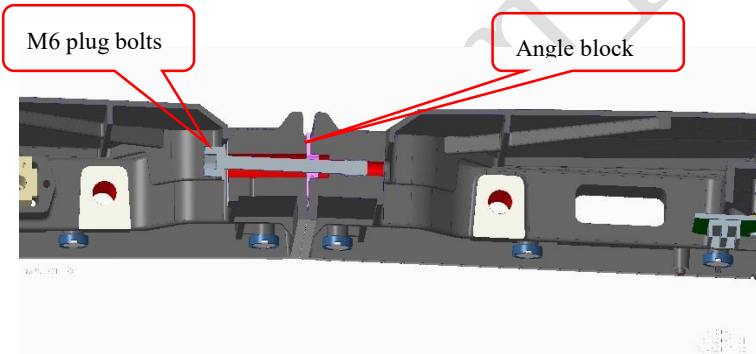

Fig 2-23 Internal drawing of left and right cabinet splicing
- 4) The left and right cabinets are fixed with M6 plug bolts, as shown in Fig. 2-23; the mounting plate and cabinet are fixed on the square pipe with hexagon socket bolts;